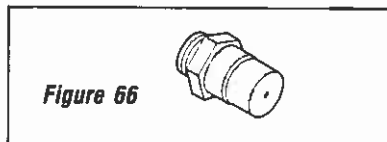

Figure 66
Step 6. Remove the burner orifice from the manifold and replace it with the one provided with the kit. See the following table for orifice sizes for natural and propane models. **Figure 66** illustrated the orifice.